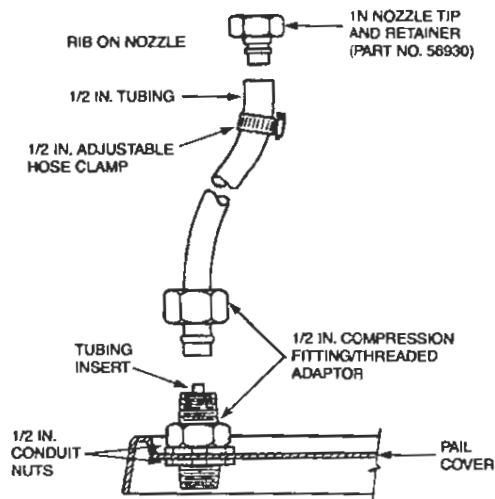

FIGURE 4
- b. Using a 1N nozzle tip and retainer, (Part No. 56930), slide a length of 1/2 in. (1.3 cm) plastic tubing over the rib on the nozzle tip and secure with a 1/2 in. (1.3 cm) adjustable hose clamp. See Figure 4. This nozzle tip will be connected to the nozzle body left installed in the distribution piping.
d. Secure 1/2 in. compression fitting/threaded adaptors to the pail cover, using 1/2 in. conduit nuts. See Figure 4.
- e. Attach the tubing ends to the compression fittings. Tubing inserts will be required. See Figure 4.